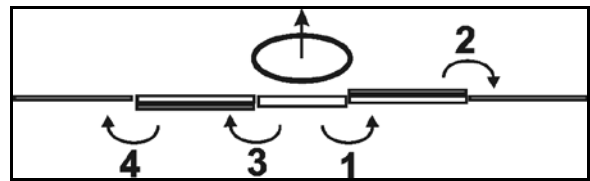

Fig. 76
Observe the sequence specified in Fig. 76 for folding the boom out. To fold in, use the reverse sequence.
2. Fold out the right-hand boom (Fig. 76/1,2).
3. Fold out the left-hand boom (Fig. 76/3,4).